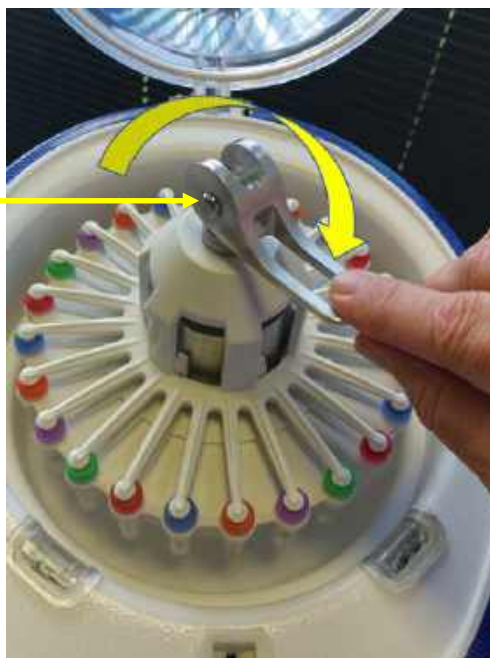

Figure IV-9: Unlock Cam Lock, 180 Degrees about Pivot
15. Lift the 'Cam Lock' handle straight up and around the 'Handle Pivot' to achieve the unlocked position. \(Figure IV-9\) Make sure that the 'Cam Lock' **DOES NOT ROTATE** around the 'Ratchet Bolt' while unlocking.